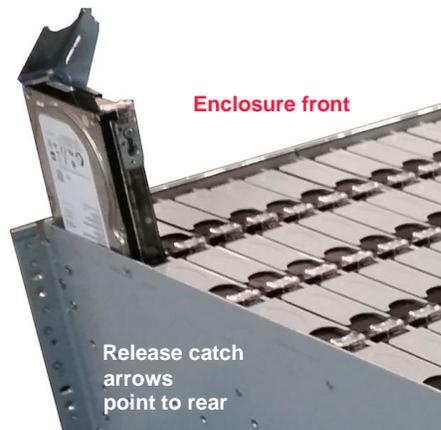

Figure 6.13 Drive insertion
2. Carefully slide the drive carrier assembly into the drive bay until the carrier contacts the baseboard and the handle begins to engage. The arrows on the release catch will point towards the rear of the enclosure when the drive is inserted in the correct orientation as shown in Figure 6.13.